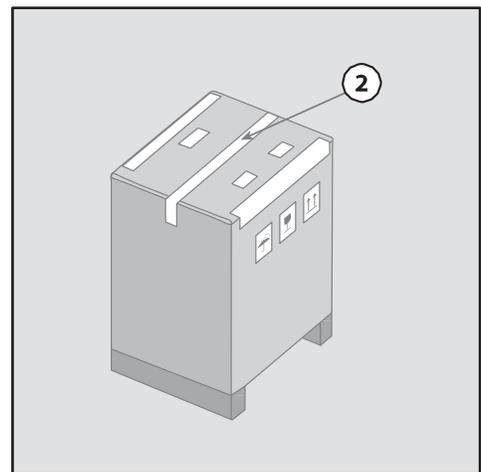

Fig 1.6: Open top carton.
2. Open the top carton by cutting the adhesive tape (see Fig 1.6).